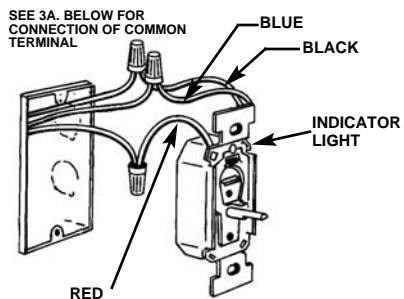

FIG. 3 Wiring Model EJ353
- 3A. MODEL EJ353 (See Fig. 3) 3 way timer package contains the timer for either wall location and a short "jumper" wire for the other location. Identify and remove wire (usually black) attached to "common" terminal of old switch. This terminal normally has a different color screw or may be identified by markings on switch body. Connect to black lead of timer using wire nut. Remove the other two wires and connect one to the red and the other to the blue timer wire.